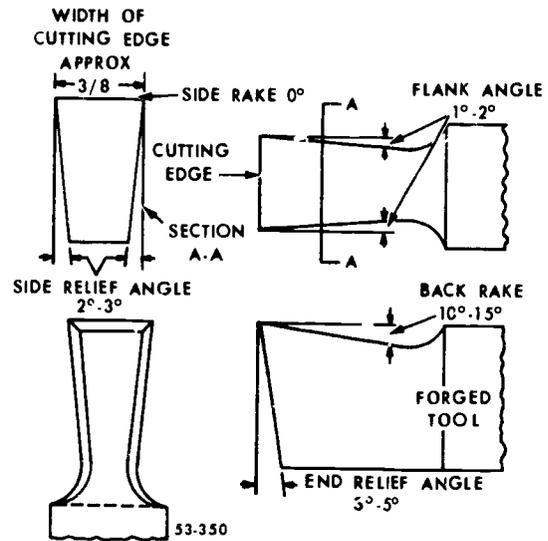
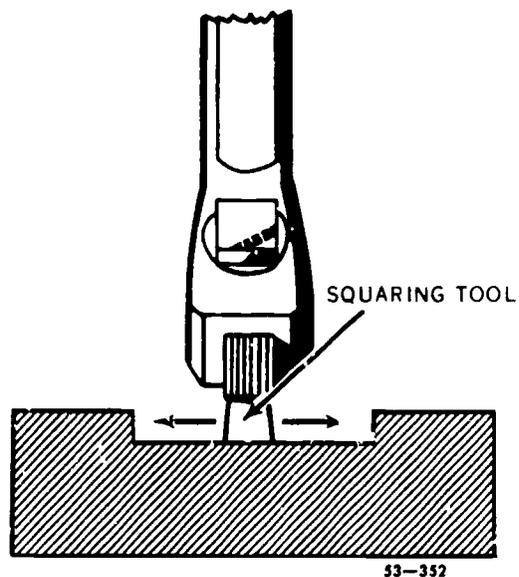

Figure 31 Squaring tool angles.
Figure 32. Squaring tool.
e. Squaring. The *squaring tool*, shown in figure 31, has sharp corners on the ends of the cutting edge which allow it to produce  $90^\circ$  corners. You use it primarily to finish the bottom and sides of shoulders, keyways, and grooves, as shown in figure 32.